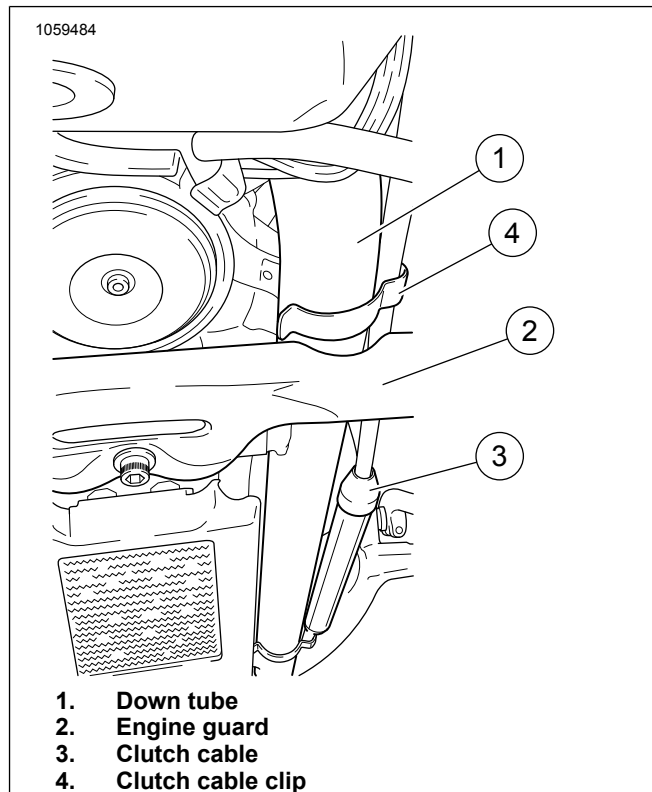

Figure 2. Clutch Cable Routing
1. See Figure 2. Check position of clutch clip (4).